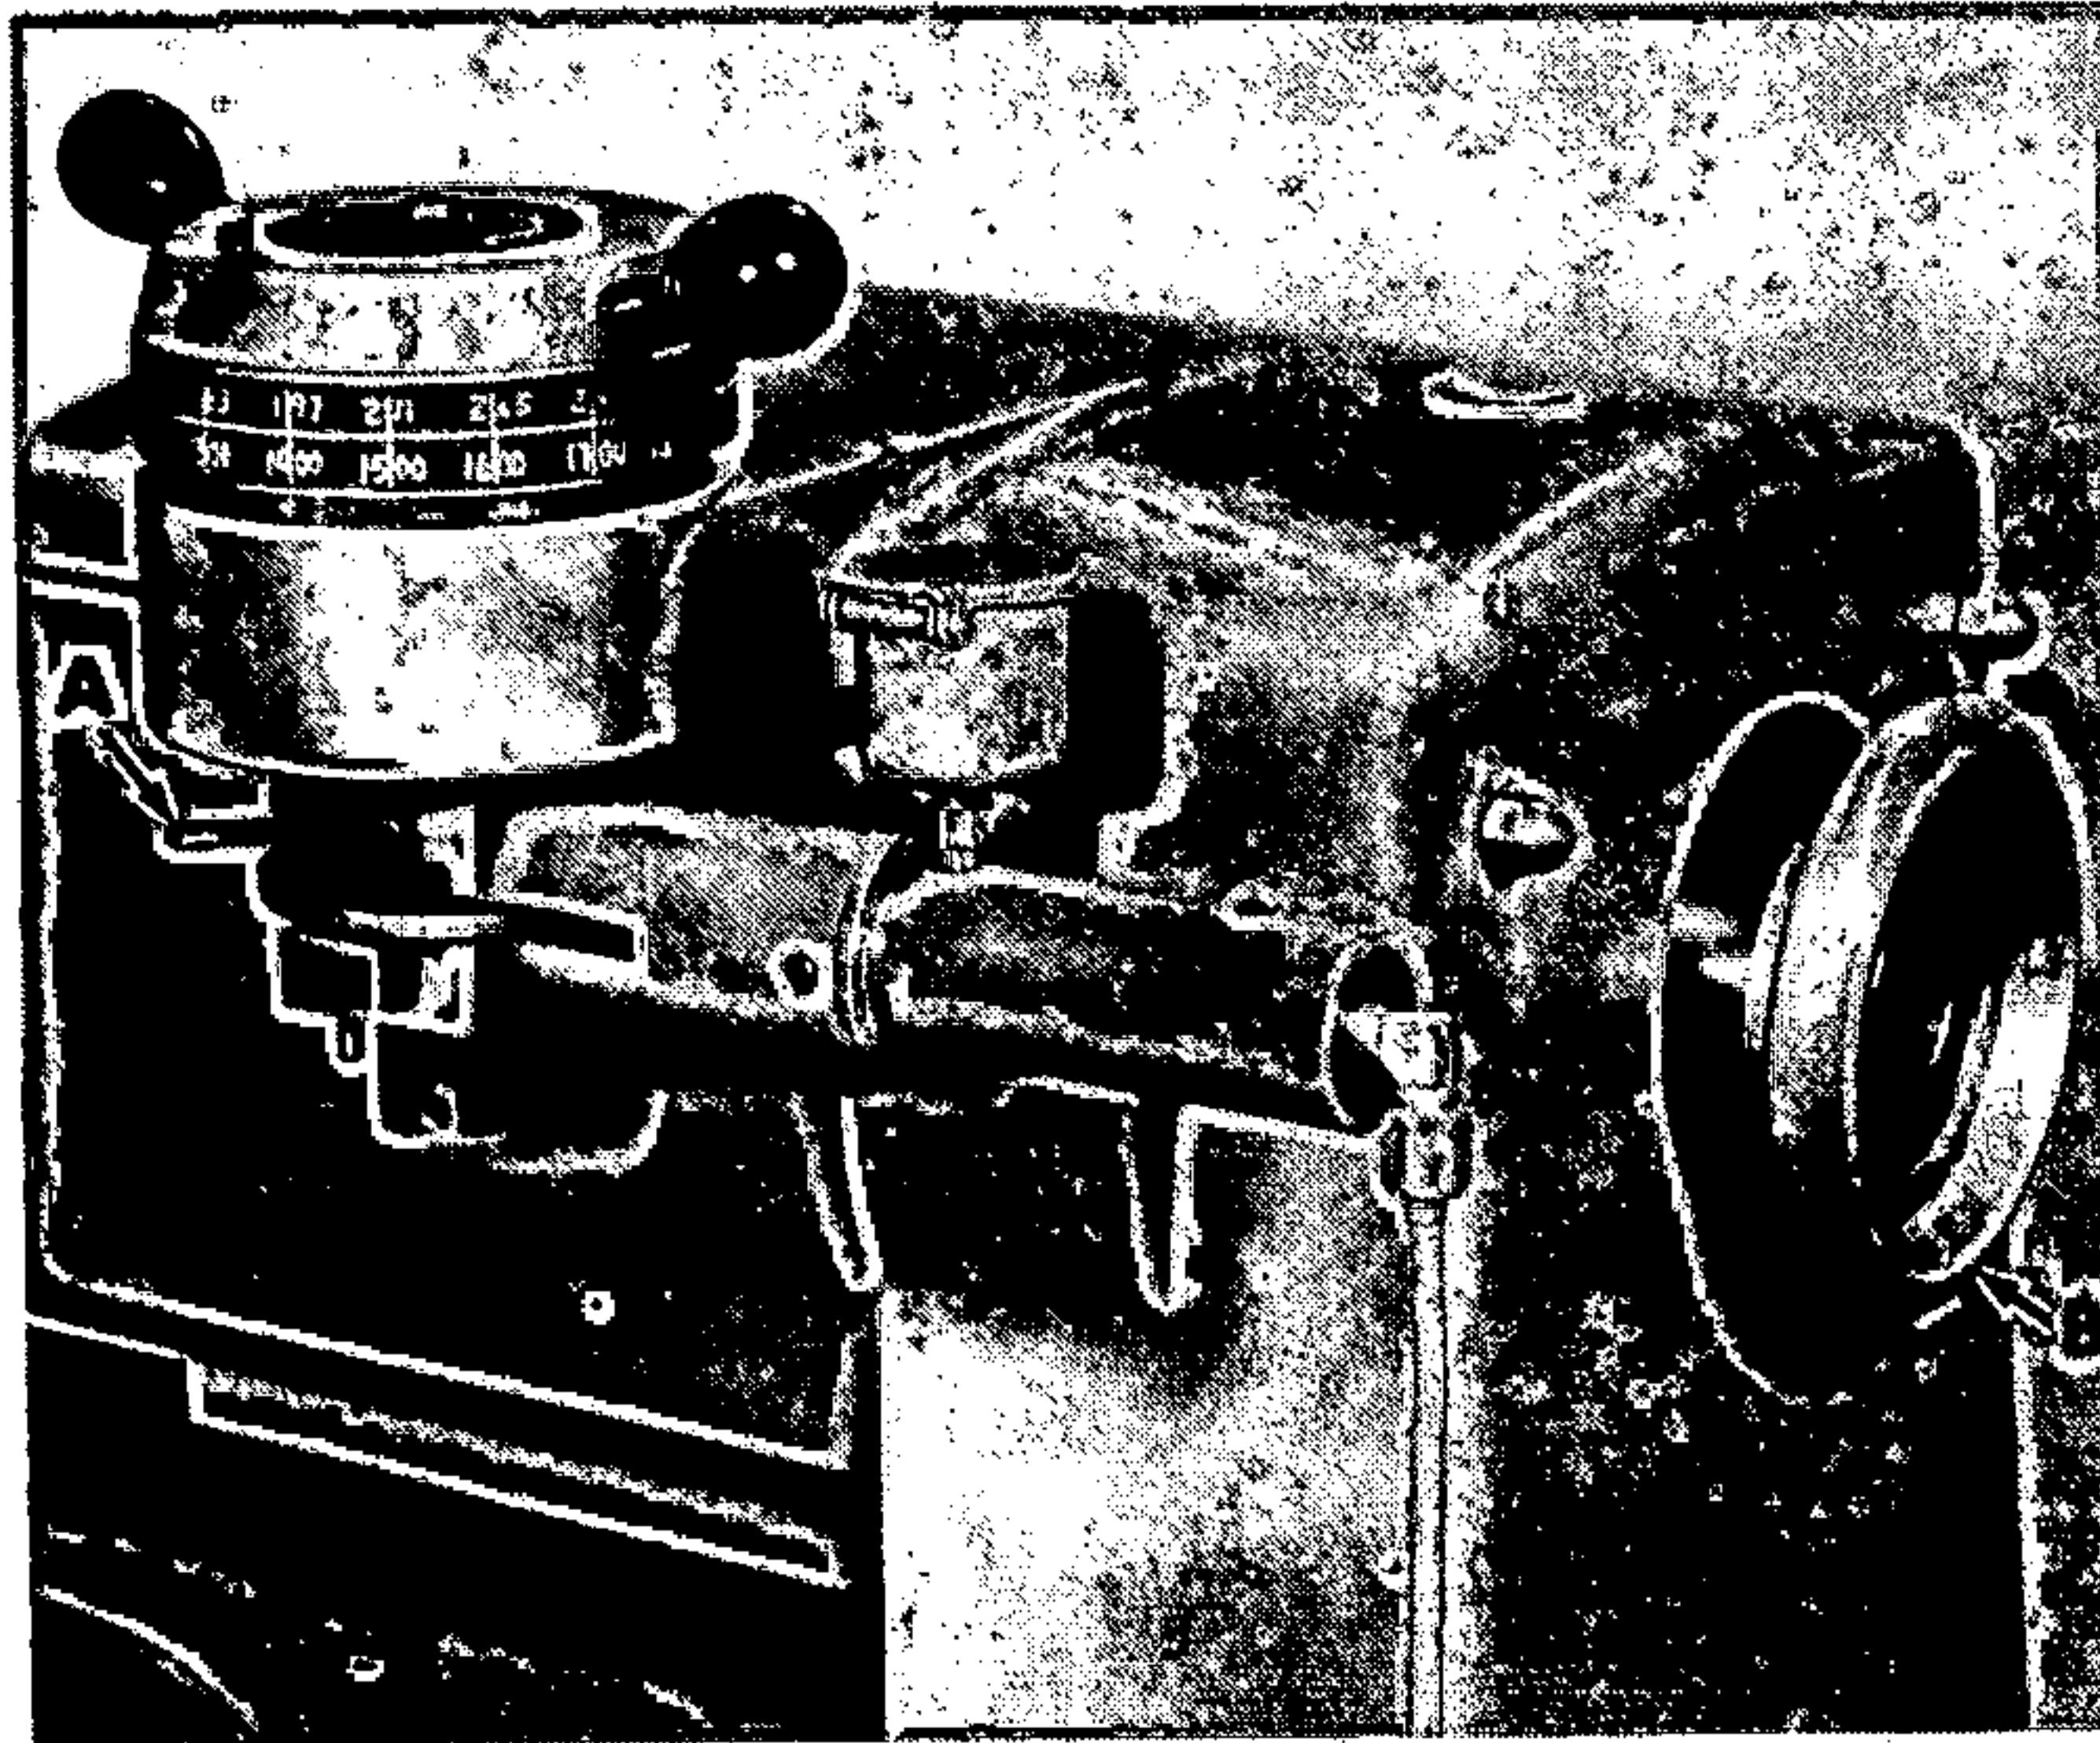
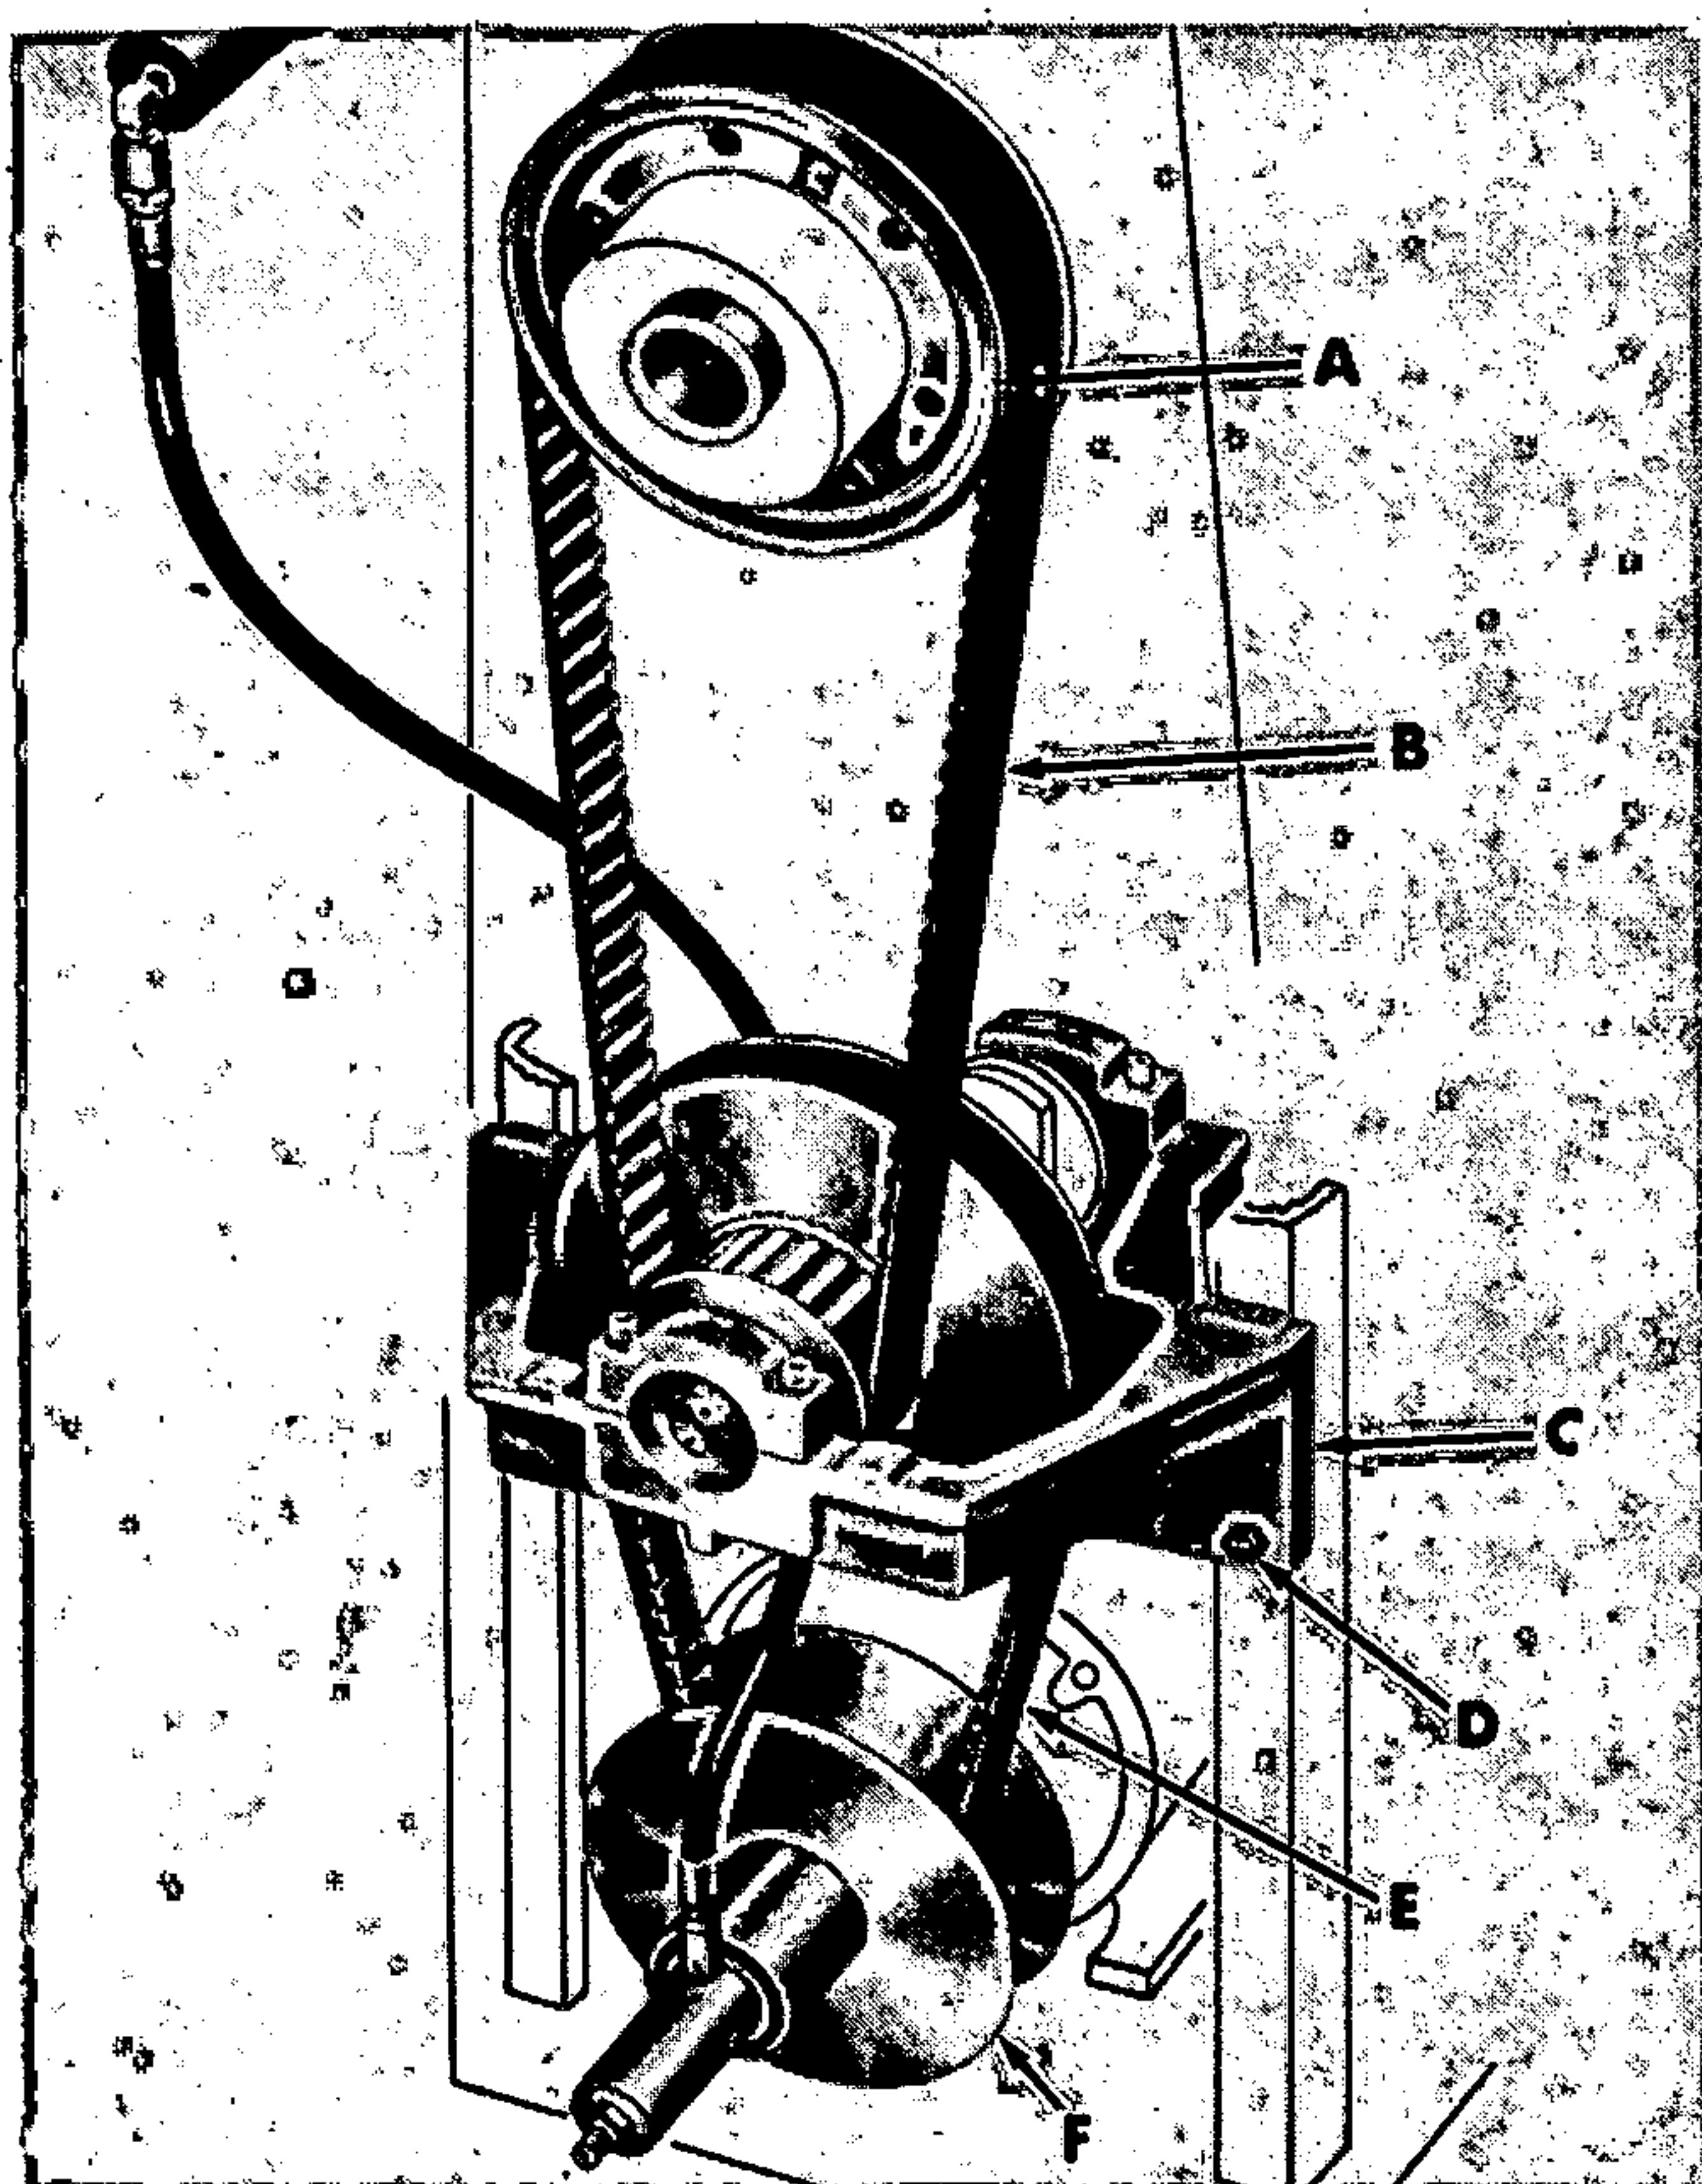
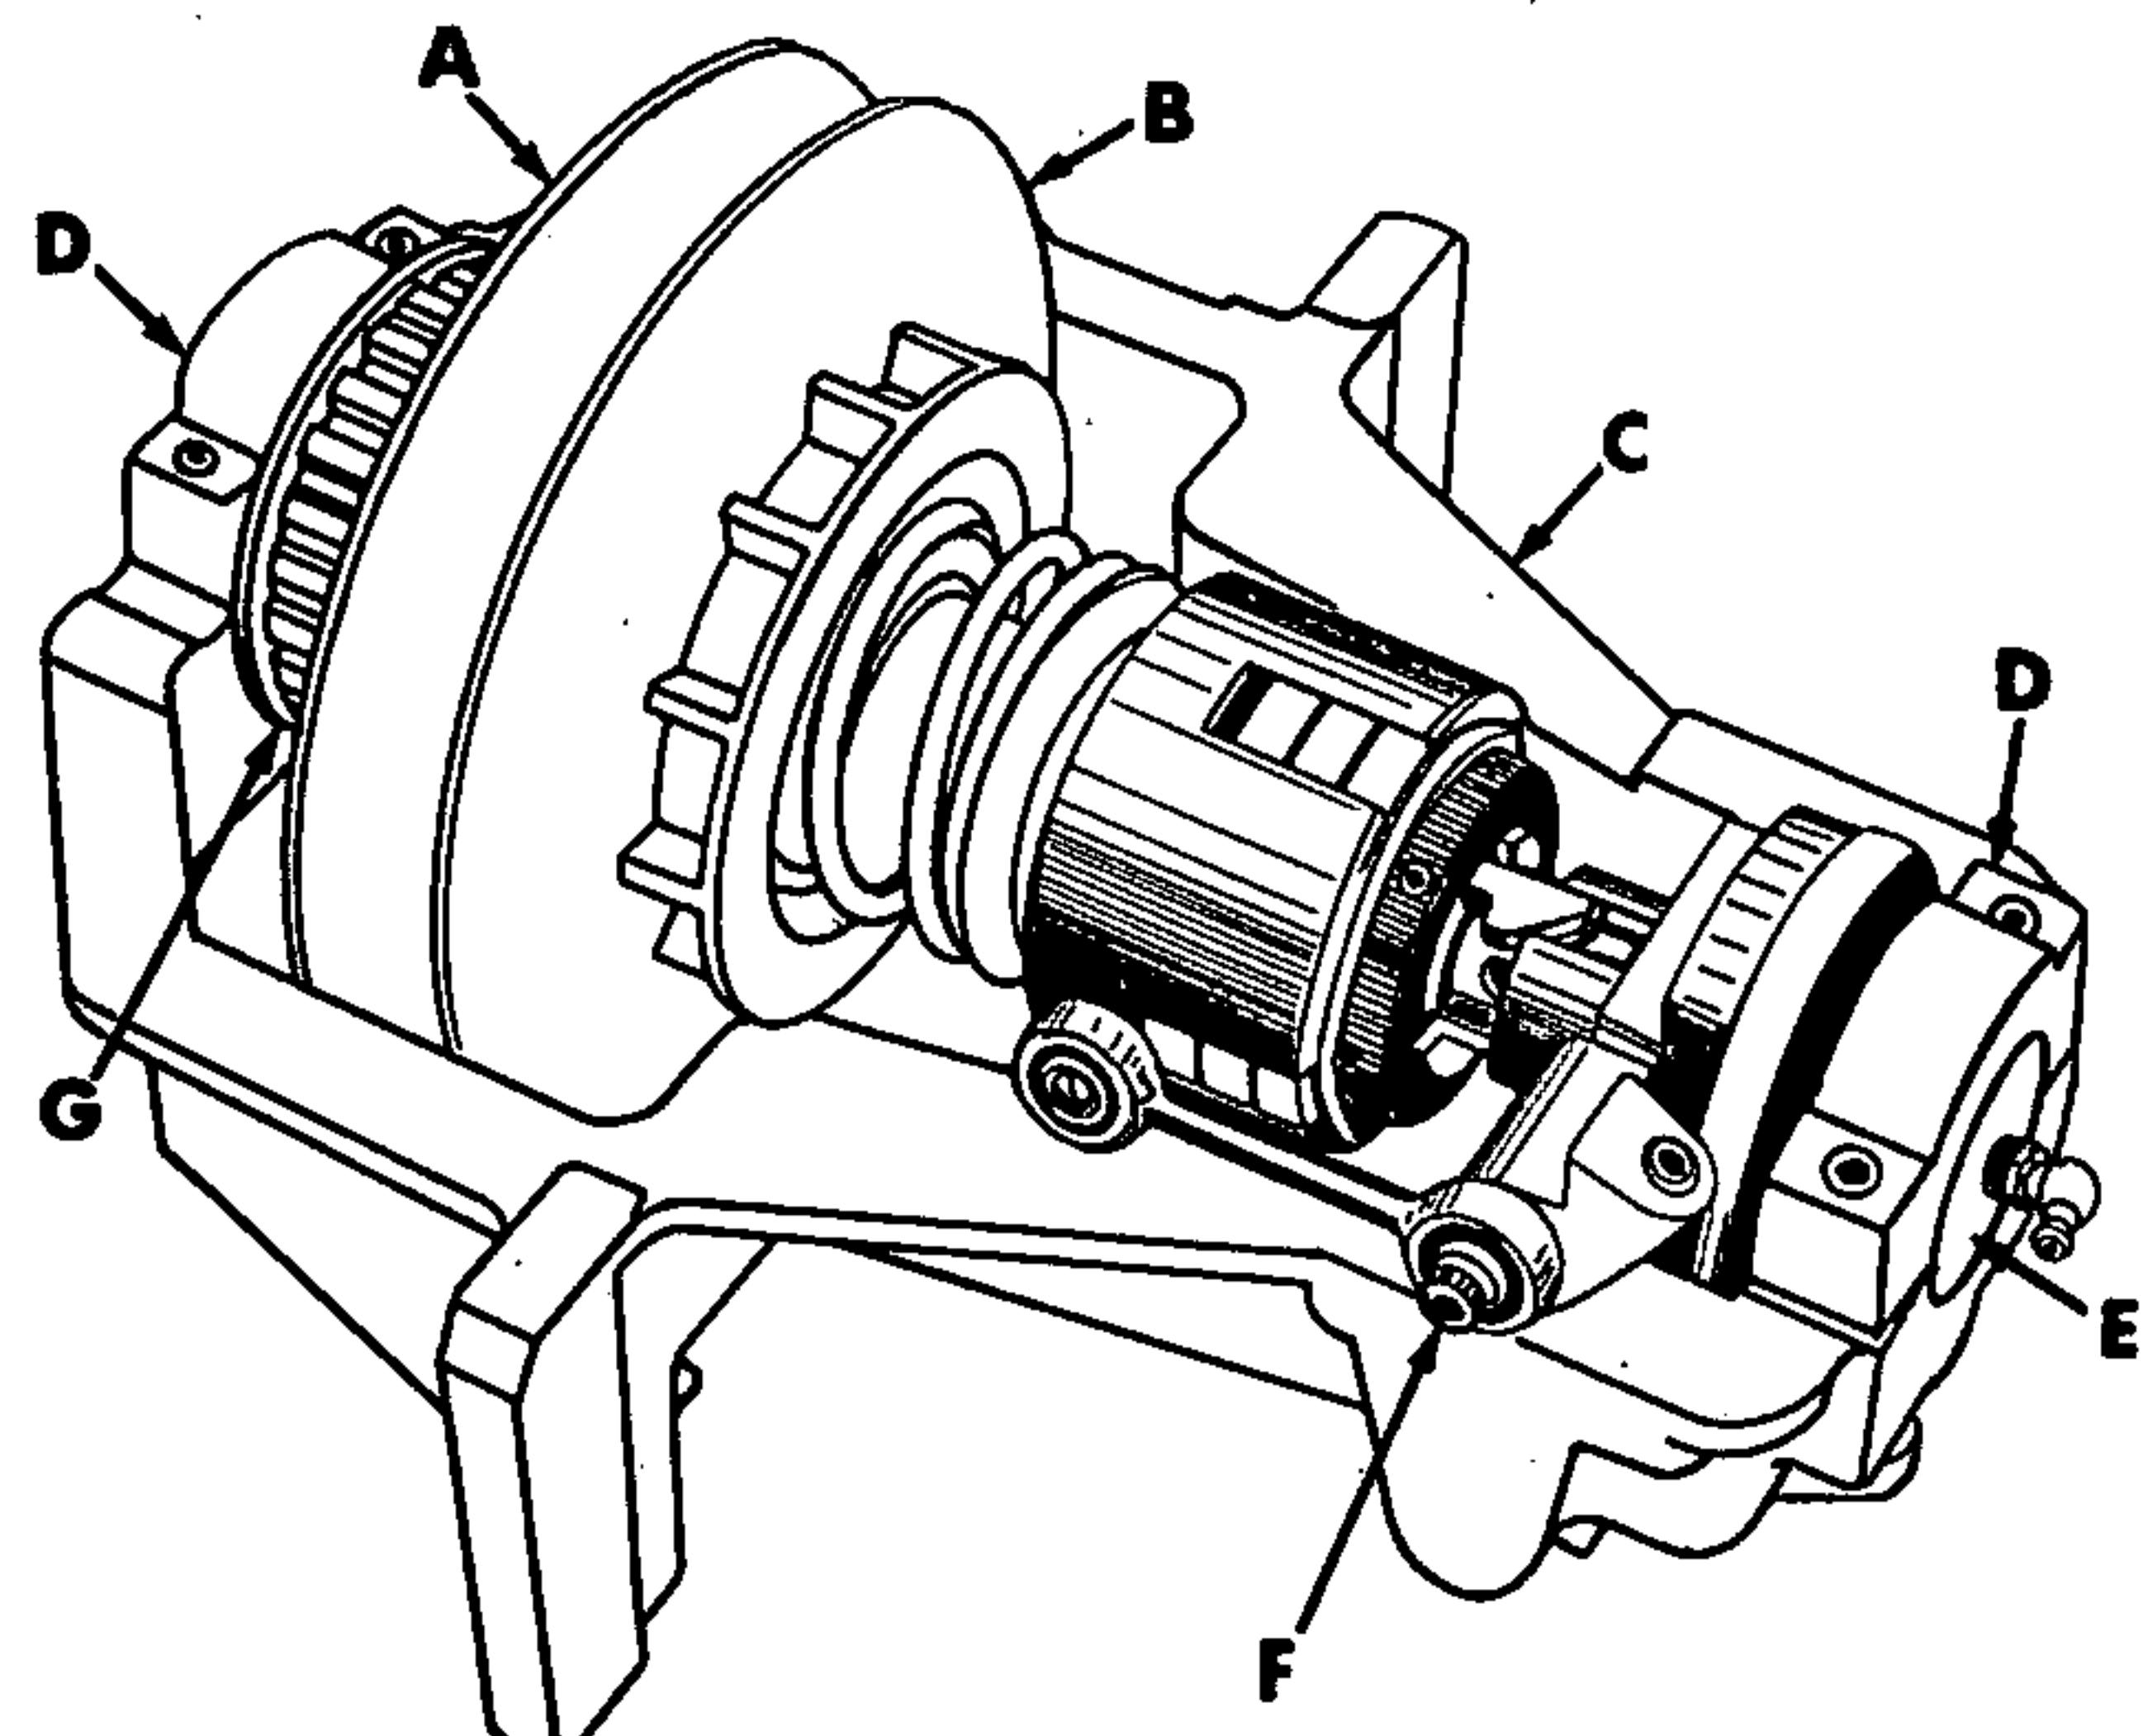

Figure 21
Figure 22
Figure 23
- Remove spindle handwheel (B) (fig. 21), belt guards and front cover.
- Turn variable dial back to lowest speed and lock dial in place with pin (A).
- Holding variable dial against low speed stop, pull on outer sheave of lower variable motor pulley (F) (fig. 22) until variable belt (E) is loose.
- Thru front cover opening, remove 5/16"-18 hex cap screw (F) (fig. 23) and spacer from clutch linkage.
- Remove four hex nuts (D) (fig. 22). Raise countershaft (C) slightly and slip timing belt (B) off spindle pulley (A). Lower countershaft and slip variable belt (E) off variable motor pulley (F).
- Remove bearing caps (D) (fig. 23), snap rings and countershaft spindle (E) from bracket (C).
- Install spindle in countershaft bracket and secure in place with snap rings and bearing caps (D). **IMPORTANT:** Make sure timing belt is in place before installing bearing caps.
- Position the countershaft (C) (fig. 22) so variable belt (E) can be slipped on motor pulley (F), then raise countershaft so timing belt (B) can be slipped on spindle pulley (A).
- Place countershaft assembly on the four mounting studs (D), then snug up the four hex nuts. Refer to Tensioning Timing Belt steps 2-5.
- Remove lock pin (A, fig. 21) from variable cam housing.
2. Remove spindle handwheel (B) (fig. 21), belt guards and front cover.
3. Turn variable dial back to lowest speed and lock dial in place with pin (A).
4. Pull on outer sheave of lower variable motor pulley (F) (fig. 22) until variable belt (E) is loose.
5. Thru front cover opening, remove 5/16"-18 hex cap screw (F) (fig. 23) and spacer from clutch linkage.
6. Remove four hex nuts (D) (fig. 22). Raise countershaft (C) slightly and slip timing belt (B) off spindle pulley (A). Lower countershaft and slip variable belt (E) off variable motor pulley (F).
8. Remove bearing caps (D) (fig. 23), snap rings and countershaft spindle (E) from bracket (C).
9. Remove timing belt from countershaft pulley (G).
10. Place new timing belt on countershaft pulley (G).
11. Install spindle in countershaft bracket and secure in place with snap rings and bearing caps (D). **IMPORTANT:** Make sure variable belt is in place before installing bearing caps.
12. Position the countershaft (C) (fig. 22) so variable belt (E) can be slipped on motor pulley (F), then raise countershaft so timing belt (B) can be slipped on spindle pulley (A).
13. Place countershaft assembly on the four mounting studs (D), then snug up the four hex nuts. Refer to Tensioning Spindle Belt steps 2-5.
15. Remove lock pin (A, fig. 21) from variable cam housing.